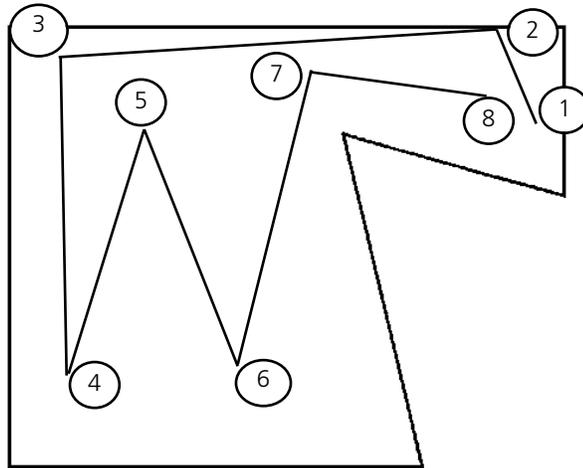

Figure 5-54
The image on the display will look similar to the illustration in Figure 5-54.
6. Click in the area in the shape identified as location 1 in Figure 5-54 to put a Mk1 at that location.
8. To keep the material from puckering or migrating during the fill stitching, digitize a running stitch underlay by entering Mk1s at locations 2 through 8 as shown in Figure 5-54. The underlay should run opposite to the direction of the fill.